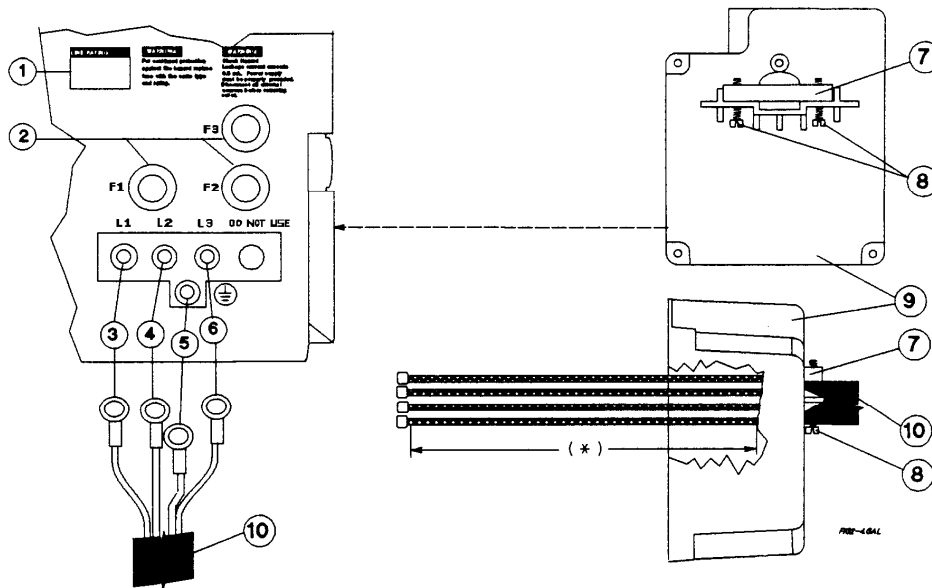

Figure 2-5. Connecting the Series 668xA Power Cord
See Figure 2-5 and proceed as follows:
1. Check the line fuses ( ②, Figure 2-5) as follows:
- a. Examine the **LINE RATING** label ( ①) on the rear panel.
- b. Unscrew the line fuse caps ( ②) from the rear panel and verify that all fuses are as specified on the label. Replace the fuses.
2. Open the line clamp ( ⑦) and insert the line cord ( ⑩) through the opening.
3. Position the line cord so that the clamp is near the end of the outside insulating sheath. Tighten the screws ( ⑧) securing the clamp. Torque the screws using 2 to 4 inch-pounds (0.23 to 0.45 Newton meters).
- \* Phase 1 ( ③) to L1. Phase 2 ( ④) to L2. Phase 3 ( ⑥) to L3.
5. Secure the ground wire ( ⑤) to the chassis earth ground stud.